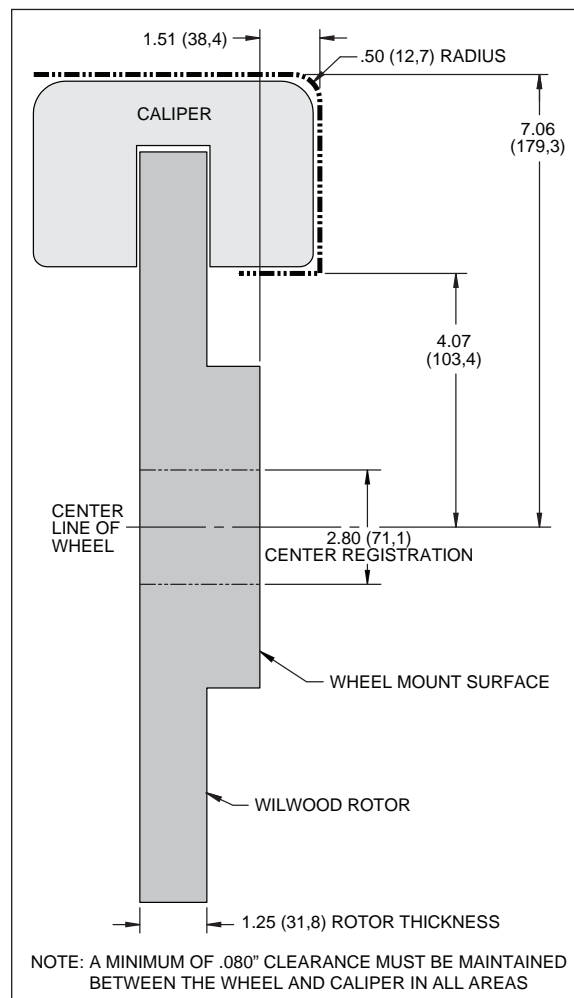

Figure 2. Wheel Clearance Diagram
- Review the wheel clearance diagram (Figure 2) to verify that there is adequate clearance with the wheels you will be using with the installation.
- Verify your wheel clearance using Figure 2.